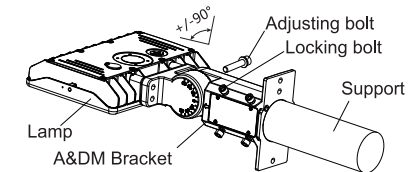

Figure 23
Step 2: Loosen the 4 locking bolts on the slip fitter, connect the wires correctly and put the wire into pole. Then fasten the locking bolts between slip fitter and the pole(Figure 23);
Step 3: Loosen the fixing bolts and adjusting bolts,adjust fixture angle as per actual demands. Tighten adjusting bolt and fixing bolts after the angle is confirmed(Figure 23).
Notice: Adjustable angle is 0~+/-90°(Figure 23)